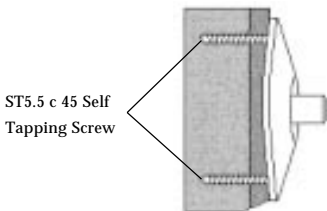

Figure 7
2. Using the wall plate as a template, mark hole positions on mounting surface. For in-wall applications, position the mounting holes in a vertical pattern, see **Figure 7** on the next page.
3. Drill holes through the drywall and into the wood stud using a 1/8" drill bit. These holes should be drilled 1-7/8" deep, see **Figure 7** above.